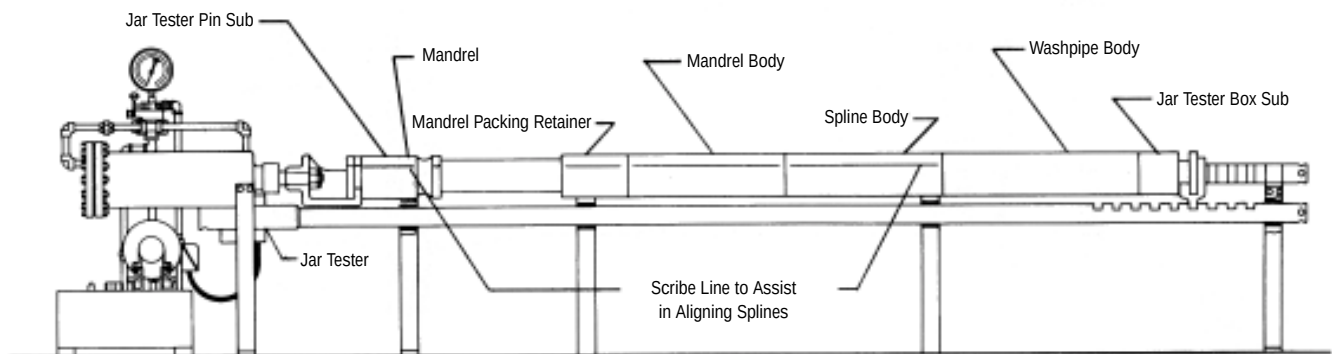

Figure 6
7. Put a Jar Tester subs in Mandrel Box and on pin of Washpipe Body, remove tool from Vise and place tool in Jar Tester. Using straight edge, scribe line along length of tool from end of Mandrel Box connection across Mandrel, Packing Retainer, Mandrel Body and to bottom end of Spline Body (this is to assist in aligning the Splines during reassembly of tool). Set Tester a low pull, 4,000 to 6,000 lbs., and pull Spline Body. Mandrel Body and Packing Retainer off Mandrel in one section. Be careful to support ends of Mandrel and Body Parts as they are pulled apart (see Figure 6 on page 13).